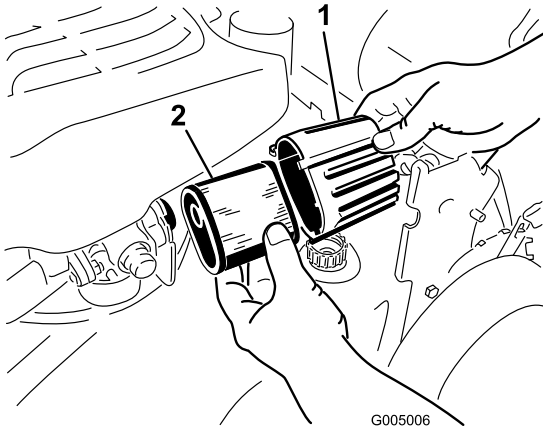

Figure 32
2. Rotate the air filter cover to remove it (Figure 32).